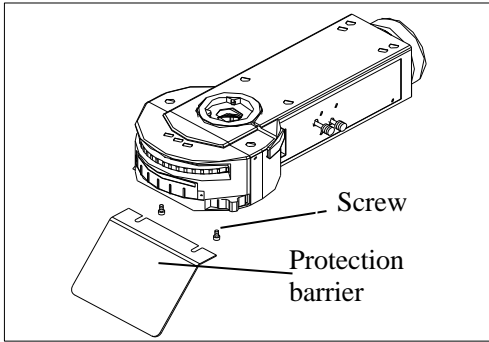

Fig 5
2.4 Mounting Protection Barrier (fig.5)